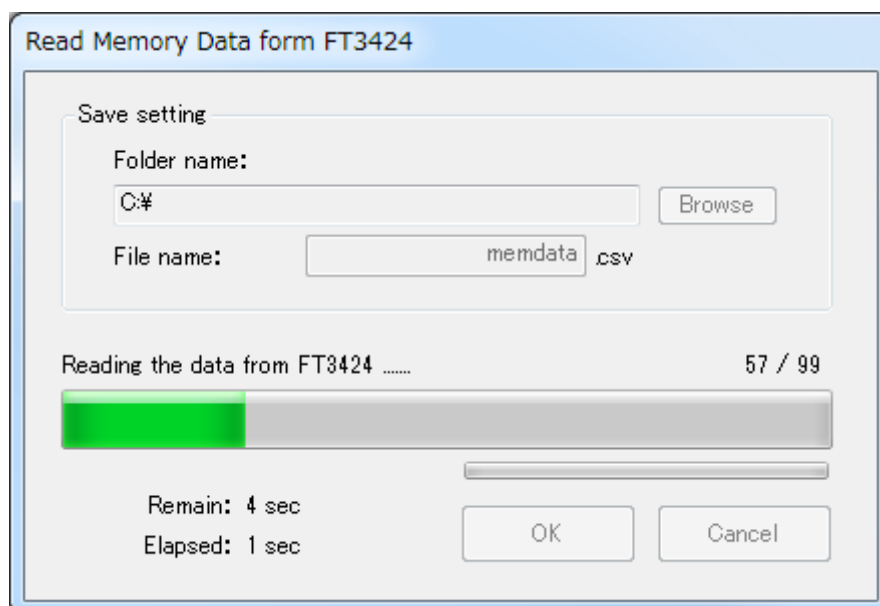

Fig.3-24
(3) It will start reading data. (Fig.3-24)